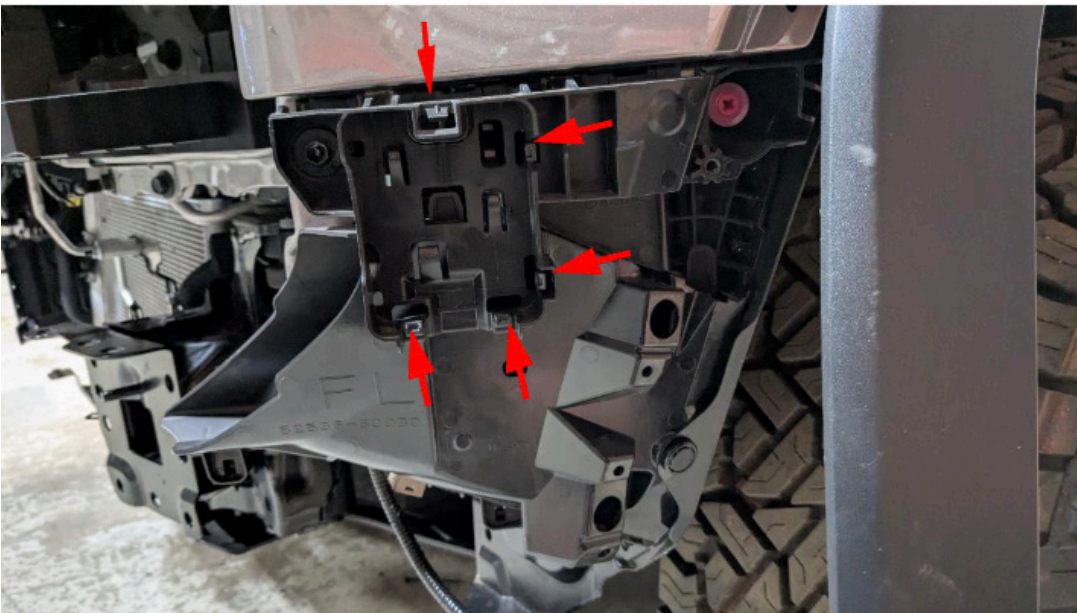

Figure 35.
27. Carefully remove the radar sensors from their brackets on the driver and passenger sides of the vehicle by releasing the clips with a panel pry tool. Figure 35.